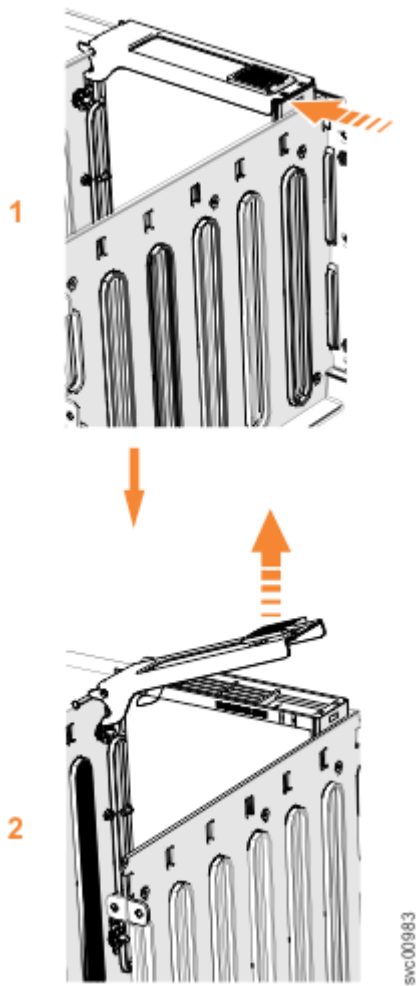

Figure 149. Remove the drive assembly
5. Slide the release latch forward (1), as shown in Figure 149 on page 184.
6. Lift the handle (2) to unlock the drive carrier from the partition, as shown in Figure 149 on page 184. Ensure the toe on the bottom of the latch is fully disengaged.